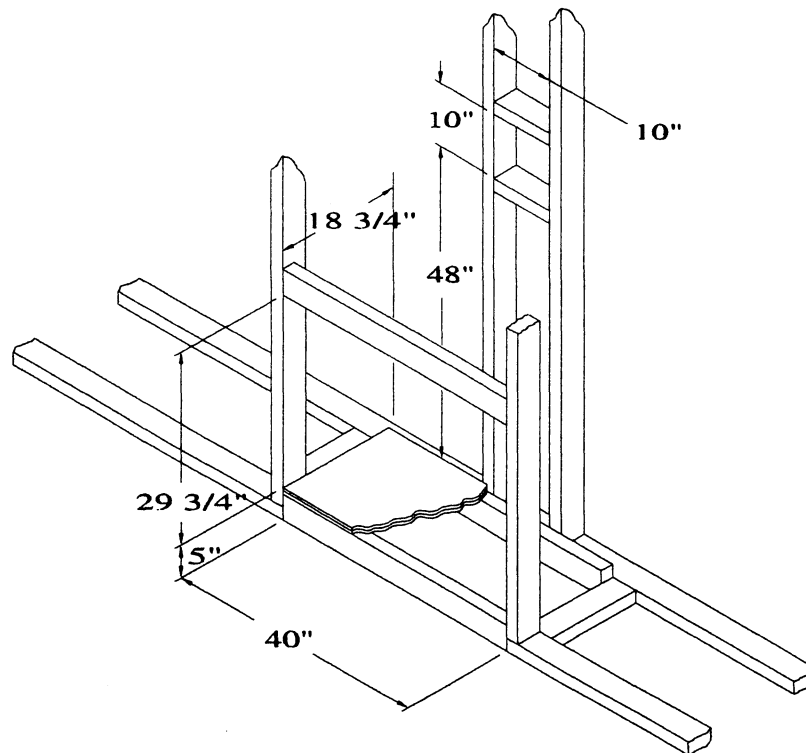

Figure 7
2. Frame-in the enclosure for the fireplace with standard framing material. The framed opening for the fireplace is 29.75" high x 40" wide x 18.75" deep as shown in Figure 7. An additional 1" (25mm) or 5" (125mm) in height is required depending on flooring options used. For the header, install a 2" x 4" on edge as shown.